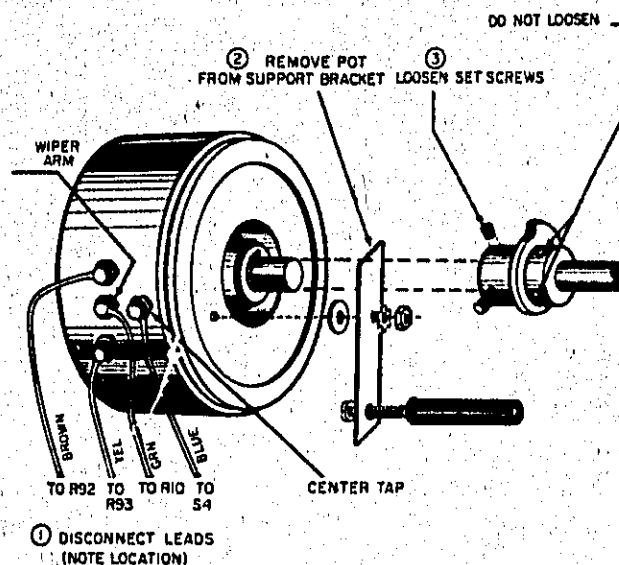

Figure 5-6. Detail Showing Reflector Potentiometer Removal
5-37. To replace reflector potentiometer, R96, refer to Figure 5-6 and proceed as follows:
- e. Loosen setscrews on mode-switch cam located between cam and potentiometer. DO NOT LOOSEN setscrews between mode-switch cam and frequency drive casting (see Figure 5-6).